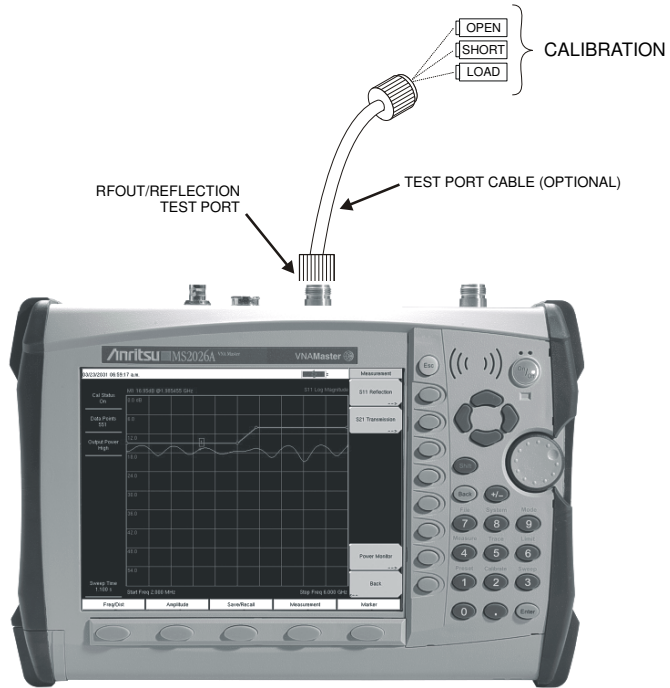
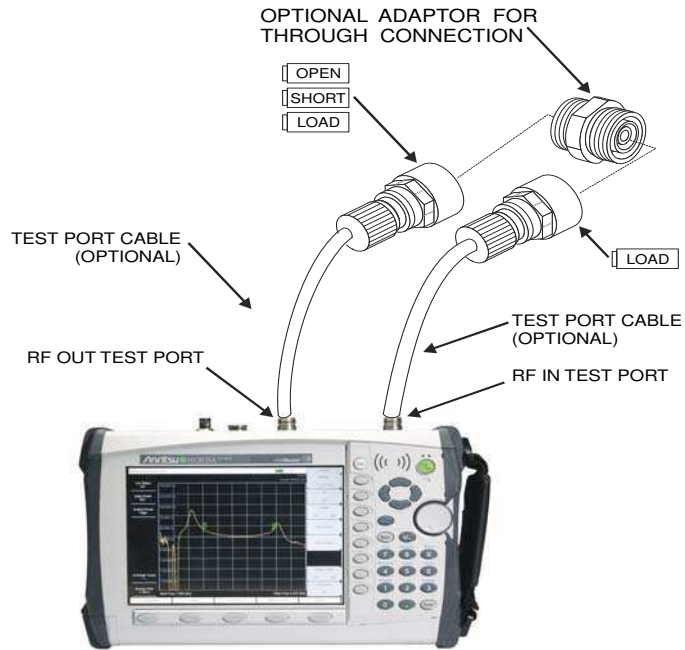

Figure 8-2. 1-Port Calibration
Figure 8-3. 2-Port Calibration
9. As shown in Figure 8-2, press Start Cal to begin Open-Short-Load (OSL) calibration. For two-port measurements, refer to Figure 8-3 for Open-Short-Load-Isolation-Through (OSLIT) calibration. In order to ensure a good calibration, be careful to follow the on-screen messages for connecting the calibration components in the proper sequence.